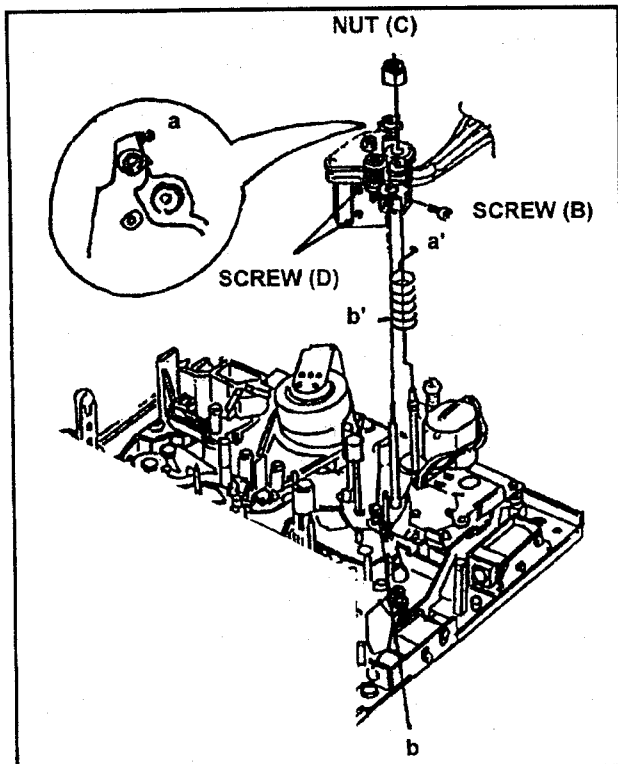

Fig. M5
2. Loosen the hex. screw (B) and remove the Nut (C). Pick up the Head Height Adjustment Spring and then remove the A/C Head Unit as shown in Figure M5.
5. Remove 2 screws (D) to remove the Shield Cover as shown in Figure M5.